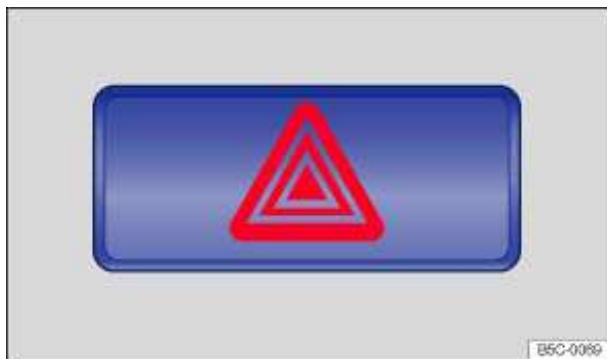

Fig. 129 In the center of the instrument panel: Switch for emergency flashers.
2. Switch on emergency flashers by pressing the Δ switch ⇒ fig. 129.